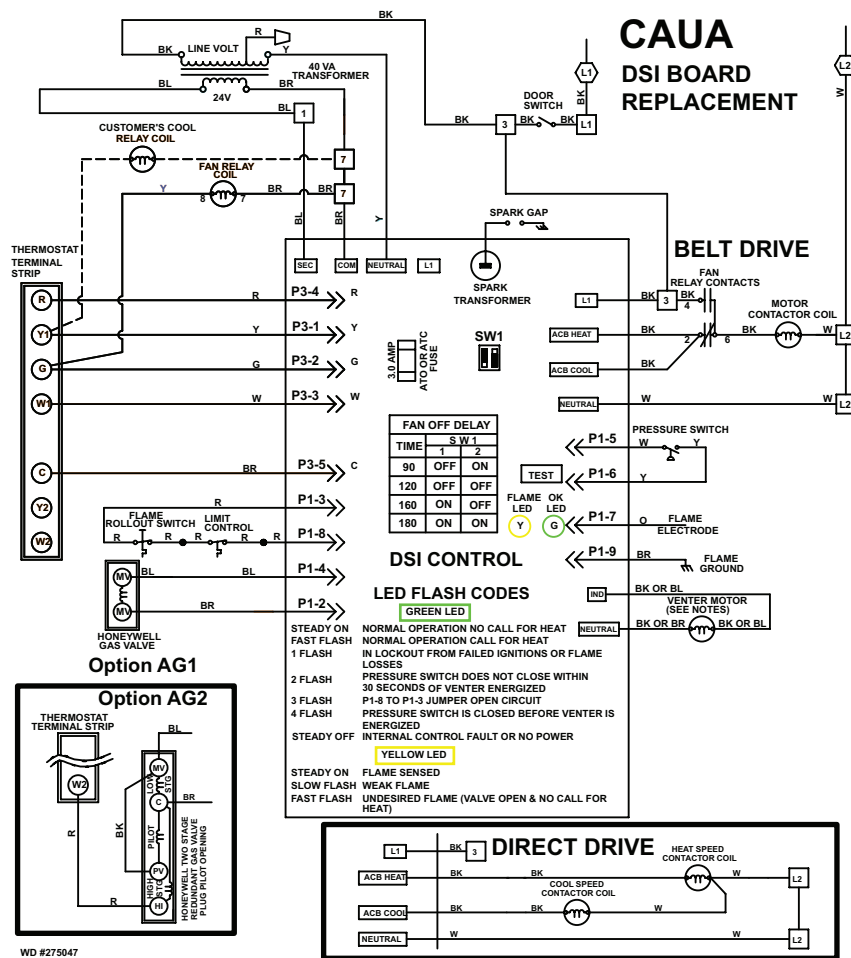

Figure 2. Wiring Diagram Label
5. Connect wiring in accordance with replacement wiring diagram label (12, see Figure 2):
NOTE: To cover all applications, connections shown in Figure 2 are for single-stage (AG1) and two-stage (AG2) controls and for both direct and belt drive motors. Make the connections that apply to the options on the unit being serviced.
6. Adhere wiring diagram label (12, see Figure 2) on left panel inside burner compartment.